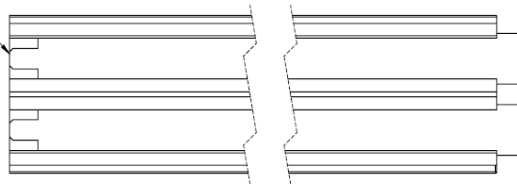

Figure 309: **Male Terminal Tabs Flush with the Plastic Insulator**
- Push in the protruding male terminal tabs on the TransStrip so they're flush with the plastic insulator (Figure 309).